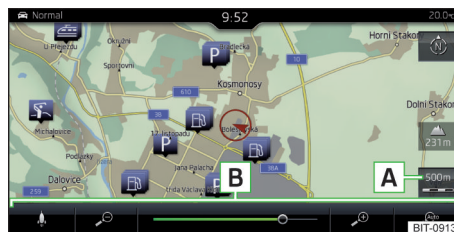
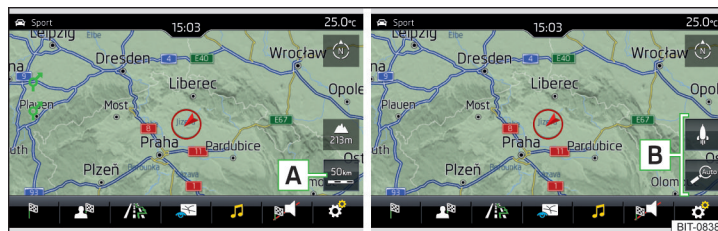

Fig. 237
Fig. 238 Function surfaces for changing the map scale: Infotainment Amundsen
- ▶ Tap on function surface **A** » **Fig. 237** or » **Fig. 238**.
In area **B** » Fig. 237 or » Fig. 238, function surfaces for changing the map scale are displayed.
- ▶ Tap the function surface **A** » Fig. 237 and use the slider or tap the function surface ρ/ρ in area **B** » Fig. 237 (applies to Columbus Infotainment).